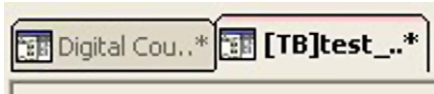

FIGURE 22.10
5. Select the master design Project Manager by either selecting the Digital Counter tab above the schematics (Figure 22.10) or selecting **Window > Digital Counter**. It may be easier to place the master and test bench designs side by side.